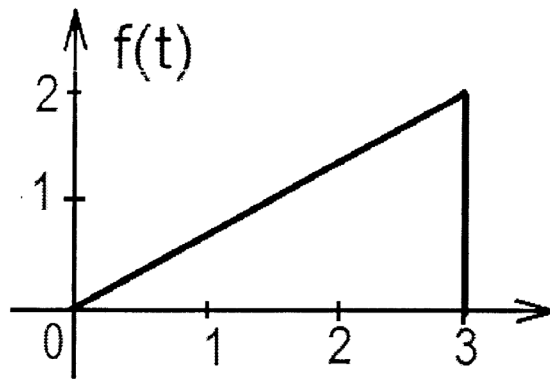

Fig. No.4
- b) Find Laplace Transform of the waveform given in Fig No.4. [6]